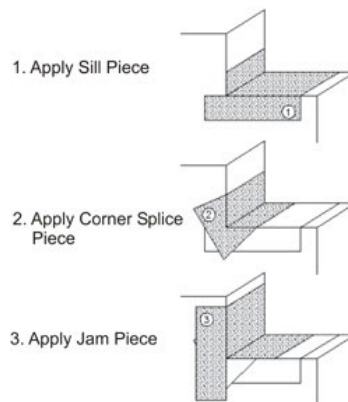

Fig. 13
- 1) Apply the Dryvit Flashing Tape as shown in the detail below - Figure 13.